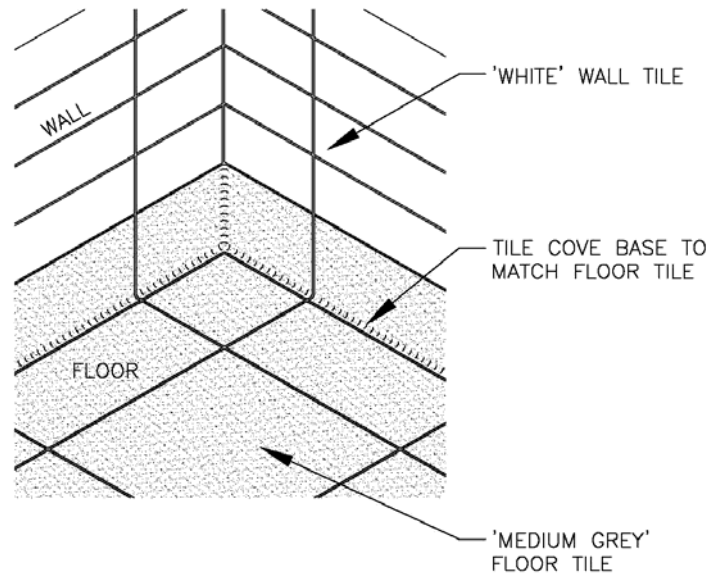

Figure 1.9C7
7. Restroom tile cove base will be provided and match floor tile and extend up the wall as shown in *Figure 1.9C7*. Non-tile cove bases and cove strips are not acceptable.